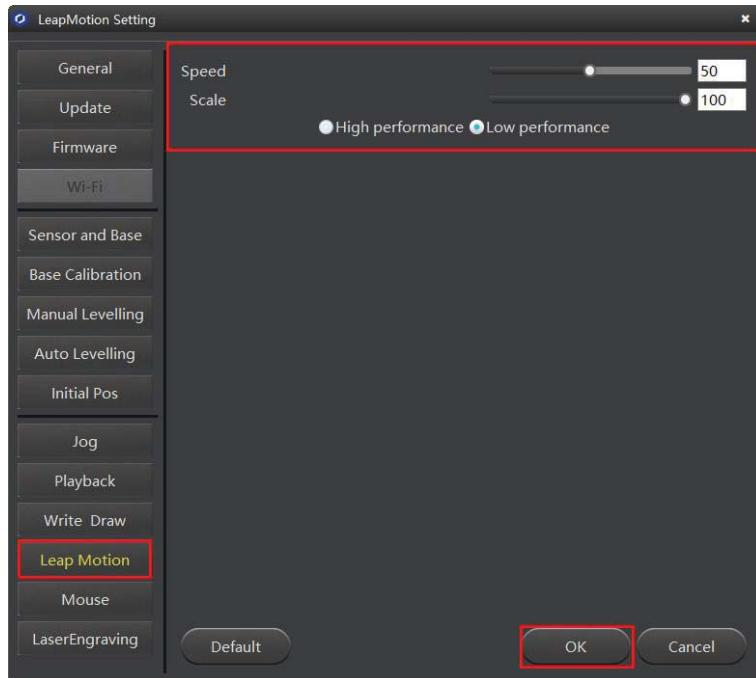

Figure 5.109 Set the parameters of the Leap Motion function
**Step 4** Click **Leap Motion**, as shown in Figure 5.109. Set the parameters, as shown in Table 5.12, and click **OK**.